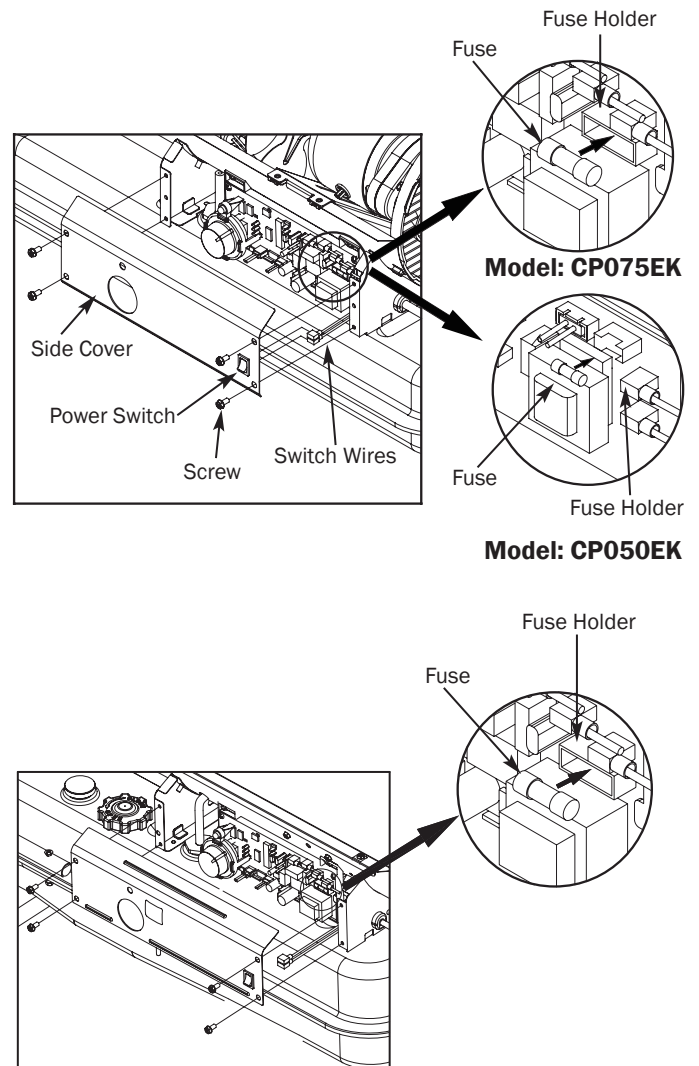

Figure 23 – Replacing Fuse
- Remove fuse from fuse holder (See Figure 23).